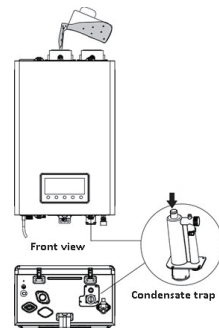

Figure 12.3
4. Fill the condensate trap inside the water heater by pouring water through the exhaust vent on top of the unit until water flows through the condensate drain. Ensure the water flows through the condensate drain line smoothly. (Figure 12.3)